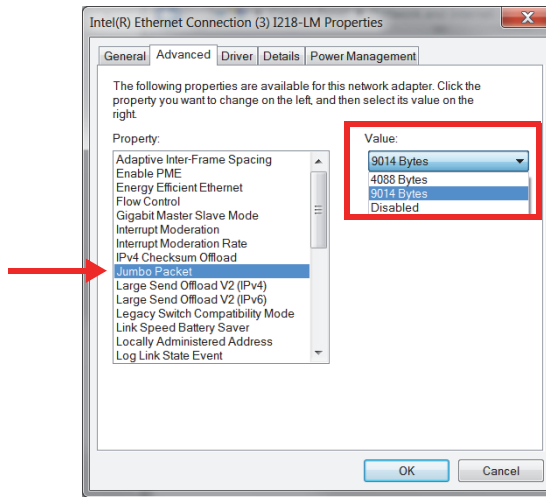

Figure 1-8 Settings on the Advanced tab
4. On the **Advanced** tab, in the **Property** list, select either **Jumbo Packet** or **Jumbo Frame** (Figure 1-8 on page 29).